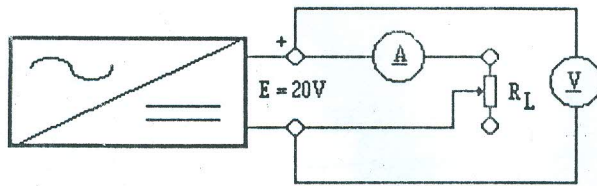

Fig 5
- Adjust "SET E" until you get 20V output and fill in the table, using fig 5.